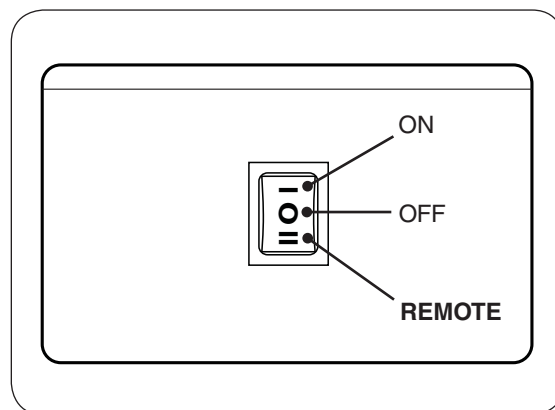

Fig. 11-1 Switch box, switch detail
1. Locate the 3-position switch on the switch box (see Fig. 11-1). Press the switch down to the **REMOTE** position.